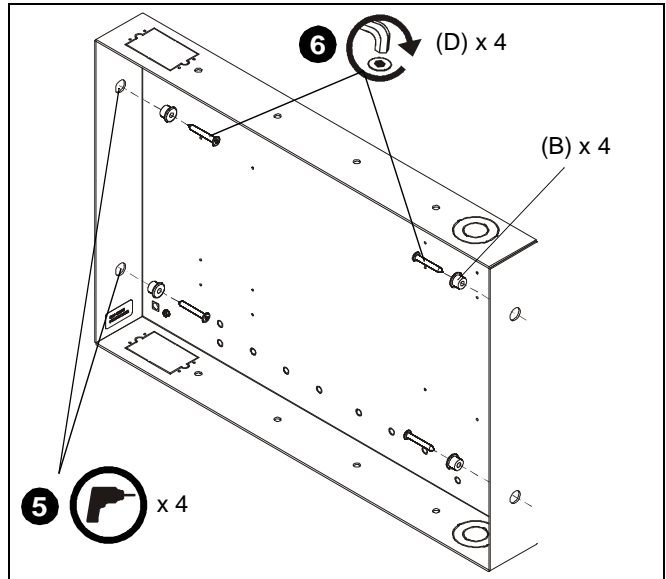

Figure 4
5. Drill four 3/16" diameter pilot holes in studs at side mounting holes. (See Figure 4)
6. Attach the TA501 (A) to side studs using four M7 x 50mm Allen head connector screws (D) and mounting spacers (B) using an M4 Allen head drill bit (F). (See Figure 4)